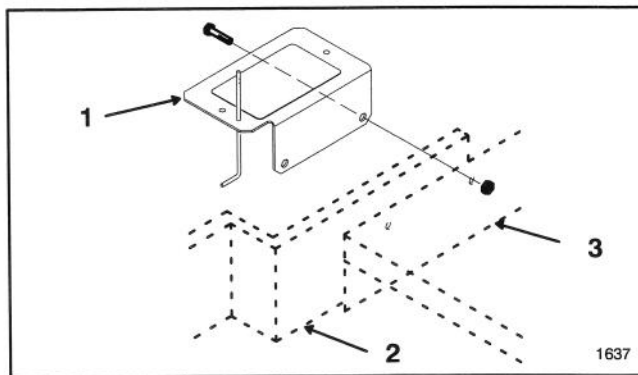

Figure 6
1. Mount battery holder and cutting unit carrier frame at the same time to upper holes on right side of traction unit. Use (2) 1/2-13 x 1-1/4" lg. flange head cap-screws and lock nuts (Fig. 6).